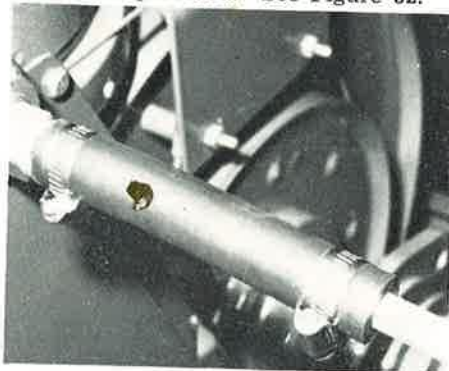

Figure 32
should be attached to the top sprocket housing shaft of the Snowblower with the rubber connector and two (2) clamps which are provided. See Figure 32.